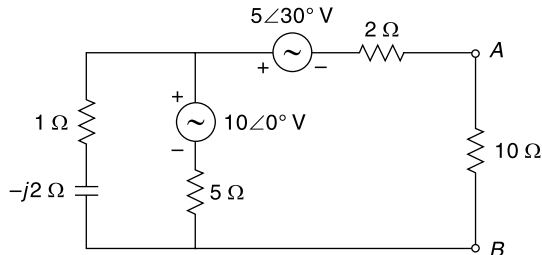

Fig. 6.31 Circuit of Ex. 6.30
6.30 Find the current through 10Ω resistor shown in Fig. 6.31 using Norton's theorem.